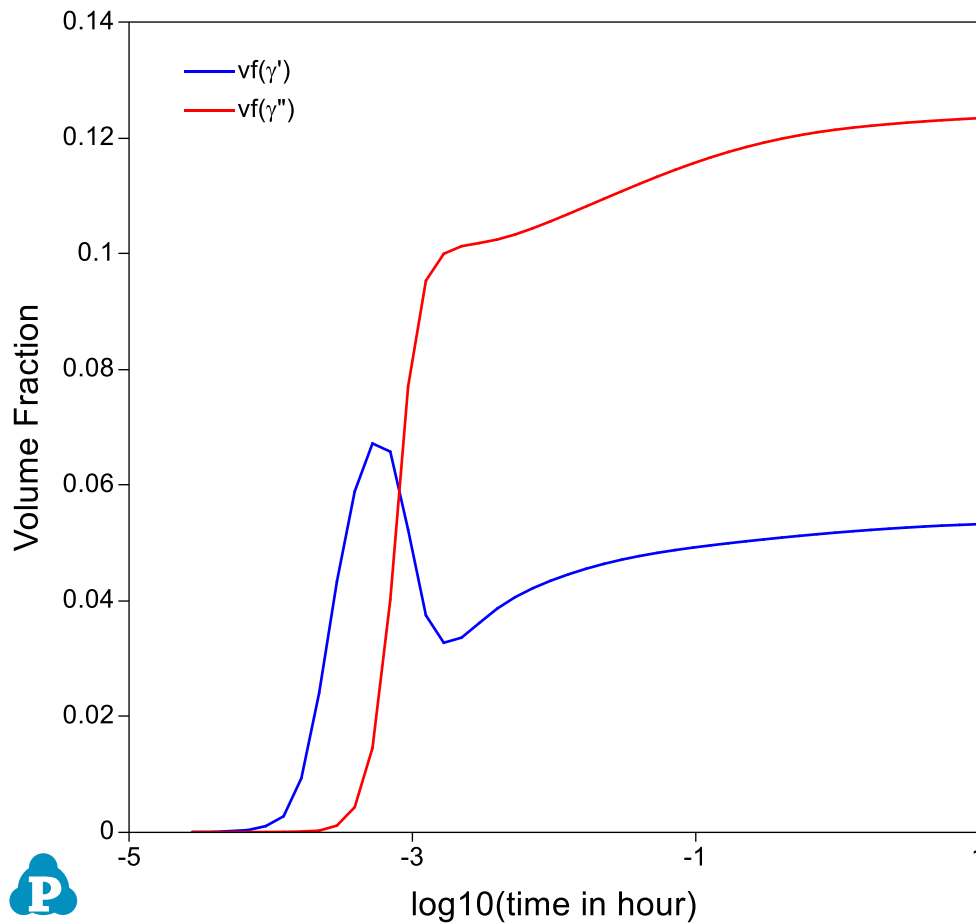
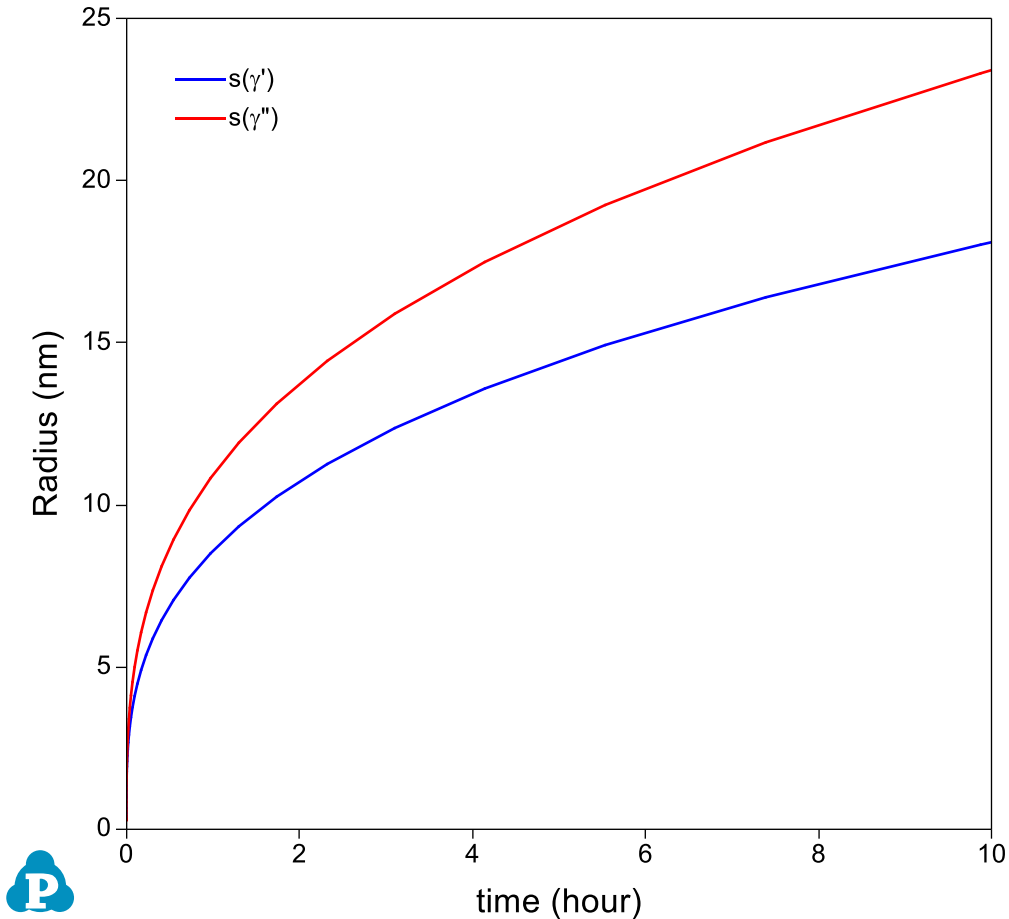

Figure 3.3.4: Calculated volume fraction evolution of the two precipitate phases
Figure 3.3.5: Calculated average size evolution of the two precipitate phases
- Open the Default Table, create time vs. volume fractions of γ' and γ'' , and time vs. sizes of γ' and γ'' plots as shown in Figure 3.3.4 and Figure 3.3.5;
- Figure 3.3.4 shows the calculated evolution of volume fraction of the two precipitate phases. It is seen that γ' precipitated quickly at very early stage, but gave way to γ'' at later time;
- Figure 3.3.5 shows the calculated evolution of the average size of the two precipitate phases. It is seen that γ'' is bigger than γ' ;